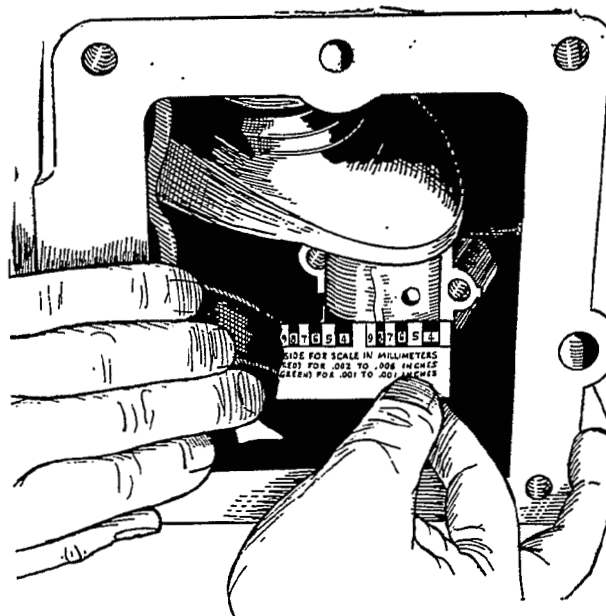

FIGURE 41. MEASURING BEARING CLEARANCE
2. Place a piece of correct size Plastigauge in the bearing cap the full width of the crankshaft rod surface about 1/4 inch off center (Figure 41).